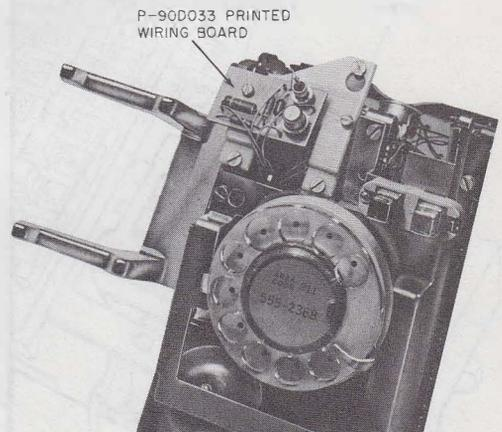

Fig. 18—P-90D033 Printed Wiring Board
**2.27** To provide station busy lamp feature with early production telephone sets equipped for both handset and headset operation and 590 and 650 series keys install a P-90D033 Printed Wiring Board Assembly, ordered separately, (Fig. 18) as follows:
**2.28** To provide station busy lamp feature with current production telephone sets equipped for both handset and headset operation and 635-type keys, a D-180463 Kit of Parts consisting of a P-90D033 Printed Wiring Board Assembly and 840361836 plug assembly, ordered separately, must be installed (Fig. 18).